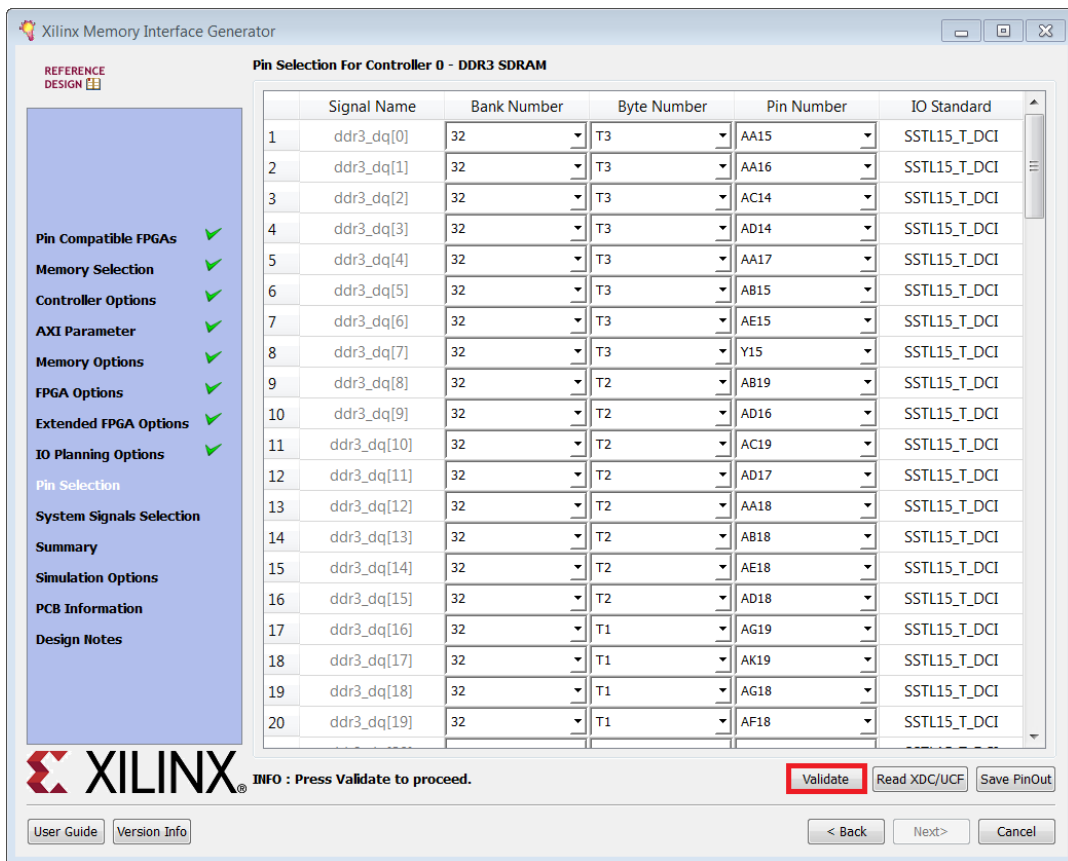

Figure 98: MIG Page: Pin Selection
- p. Click **Validate** to validate the pinout (Figure 98).